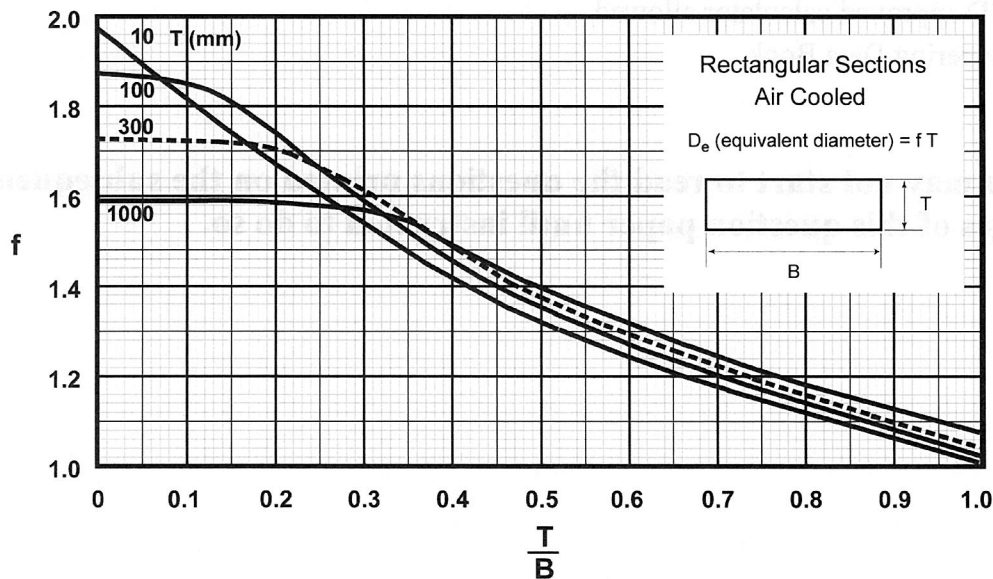

Fig. 1
- (ii) A long strip of BS 817M40 steel has a rectangular cross-section with dimensions  $10 \times 50$  mm. It is austenitised at  $850^\circ\text{C}$  and then allowed to cool in air. Estimate the microstructure and hardness of the steel at the centre of the cross-section and at the surface of the strip. Data for this geometry and material are provided in Fig. 1 and 2. [25%]